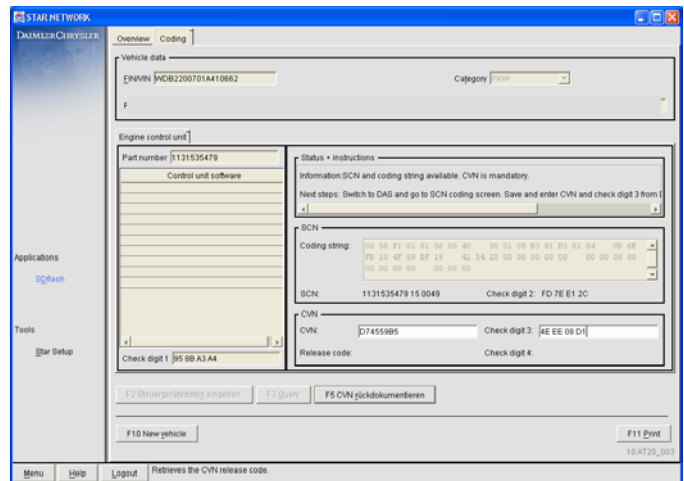

Figure 9
1. Input the CVN and Check Digit [3] into the respective fields in the SCN Coding On-line Application. (Figure 9)